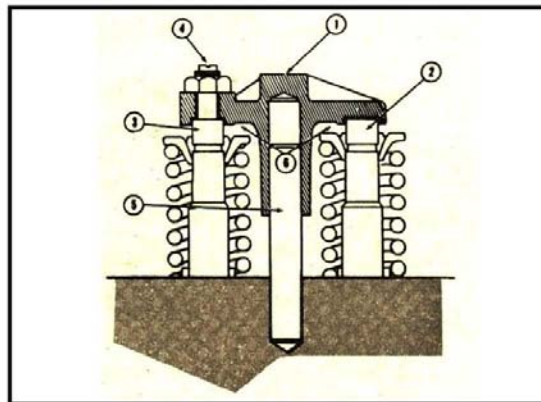

Fig. 14-58 Valve crosshead
5. Check the clearance between the crosshead and the valve spring retainer (Fig. 14-58) with a wire gauge. There should be a minimum of 0.025 inch (0.64mm) clearance at this point.